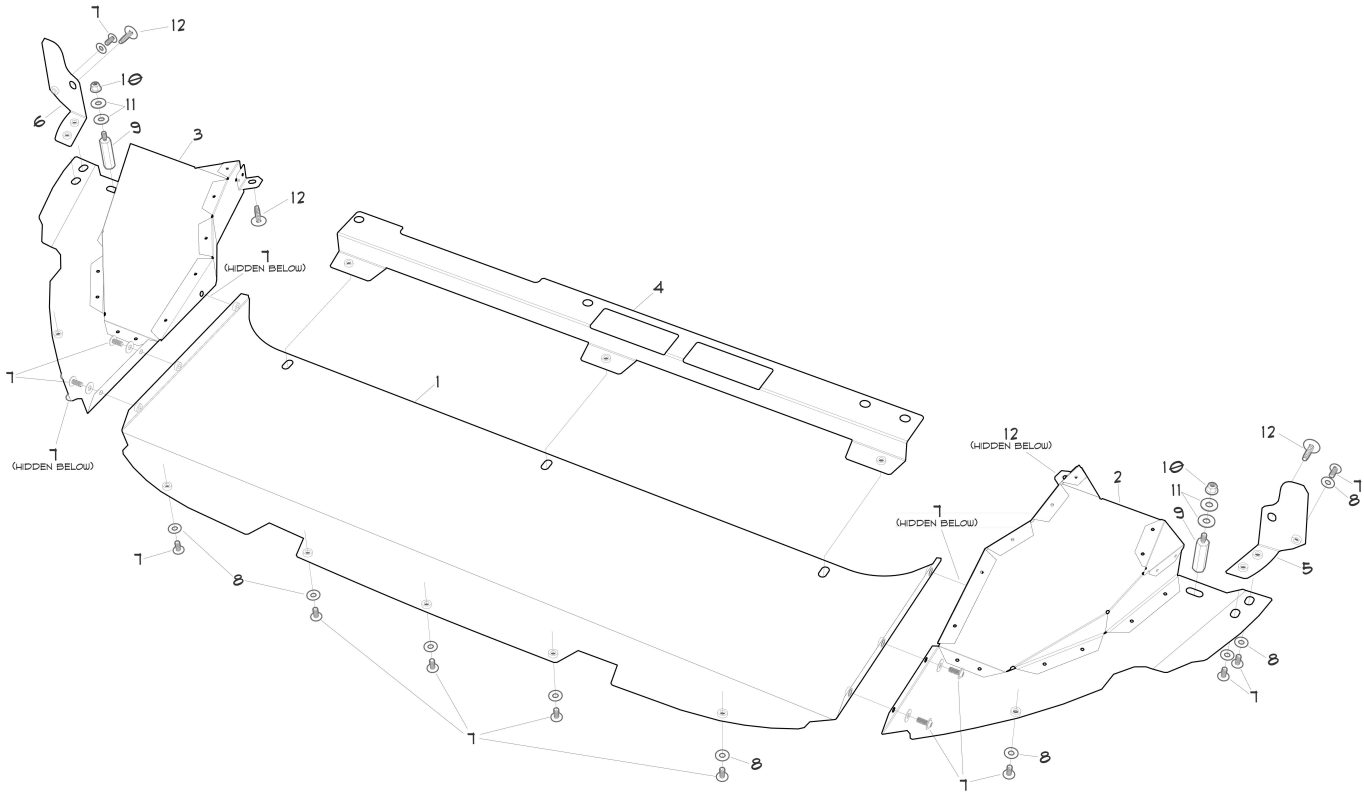

FIGURE 1 - FRONT SPLASH GUARD PARTS DIAGRAM
1. **Pre-assemble your ADF Customs Front Splash Guard.** Refer to the diagram in **Figure 1**.